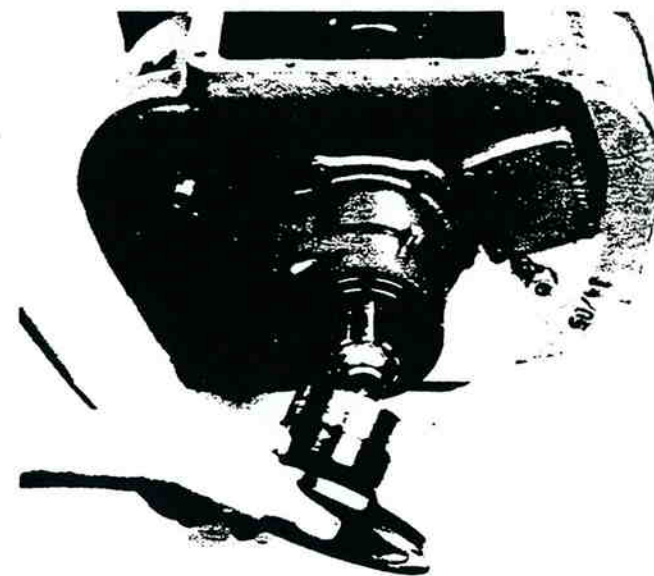

Figure 13-17. Pry Bearing Cover Evenly.
- 5 Pry the bearing cover evenly to the rear to unseat from output shaft bearing (figure 13-17).